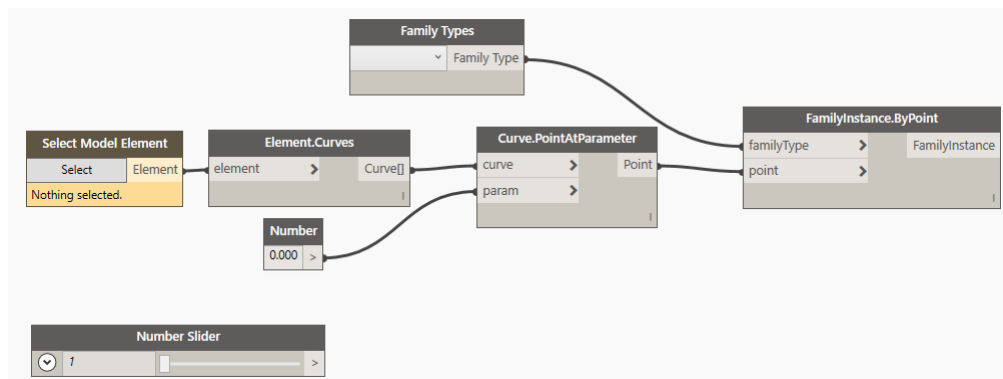

Figure 30
4. Position the nodes and wire them as indicated in Figure 30.